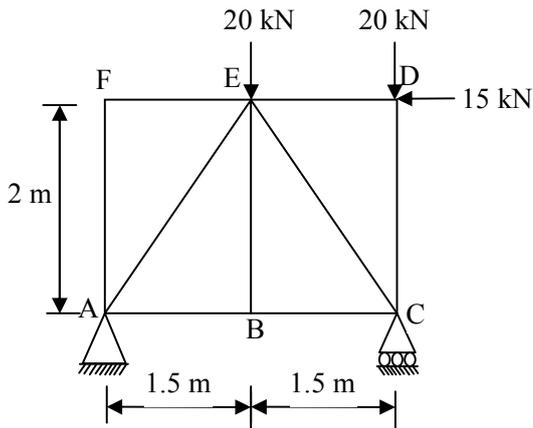

Fig. 1 Que 2(c)
**(c)** **Fig. 1** shows a plane truss, check determinacy and calculate magnitude and nature of each member force and reactions for given loading on the truss. Tabulate all member forces showing their magnitude and nature. **07**